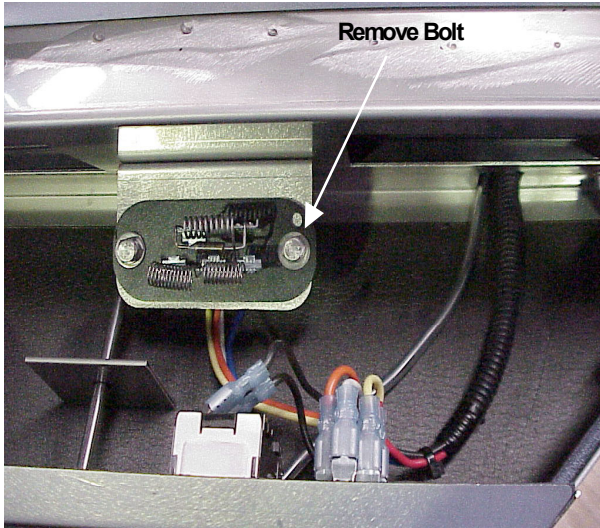

Figure 1 – Bolt Removal
- b. Remove the bolt as indicated in Figure 1.